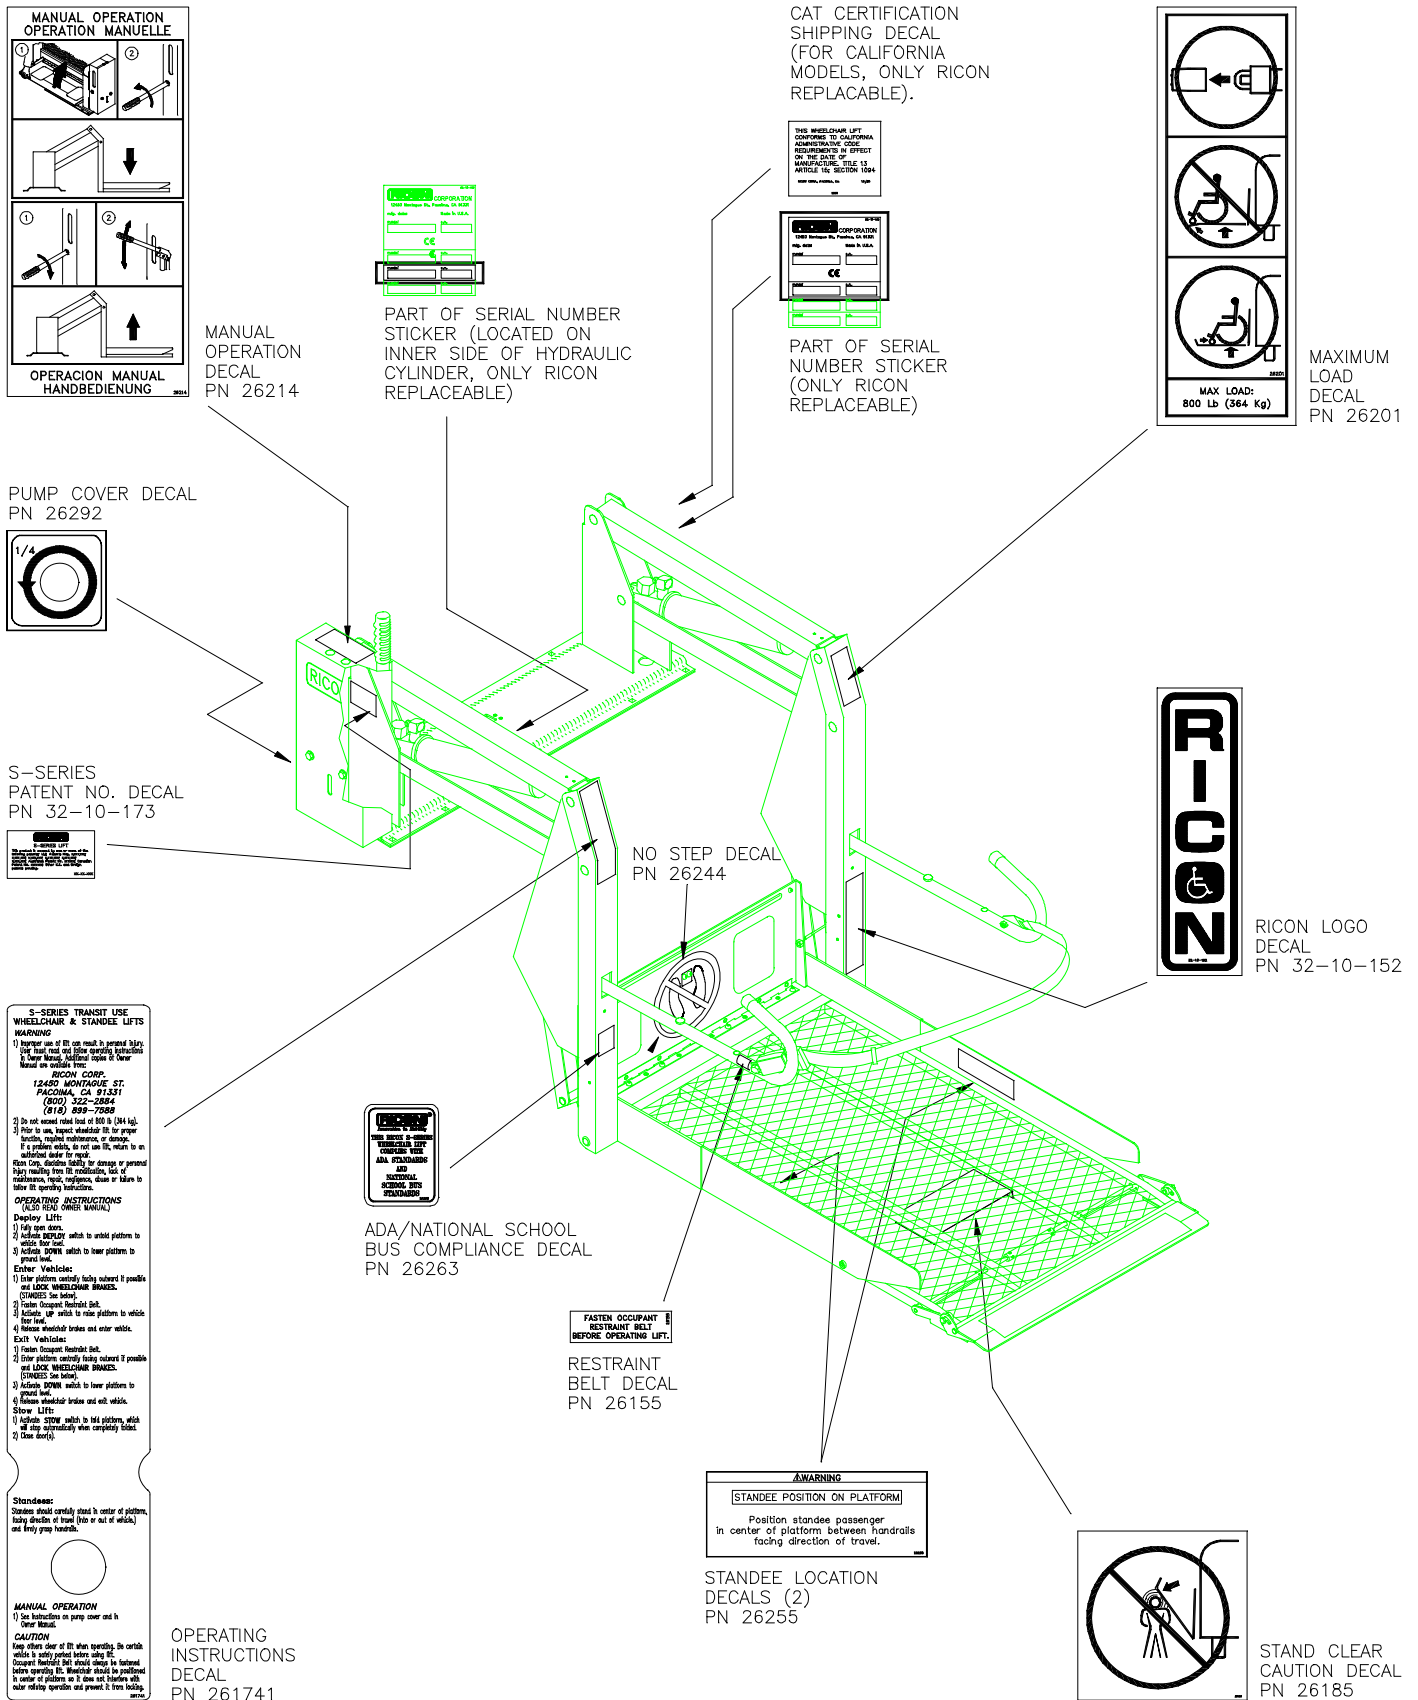

FIGURE 2-25: ADA TRANSIT LIFT DECAL LOCATIONS AND PART NUMBERS
- ! Refer to **Figure 2-25** on next page and verify that all decals are properly located and affixed as shown.